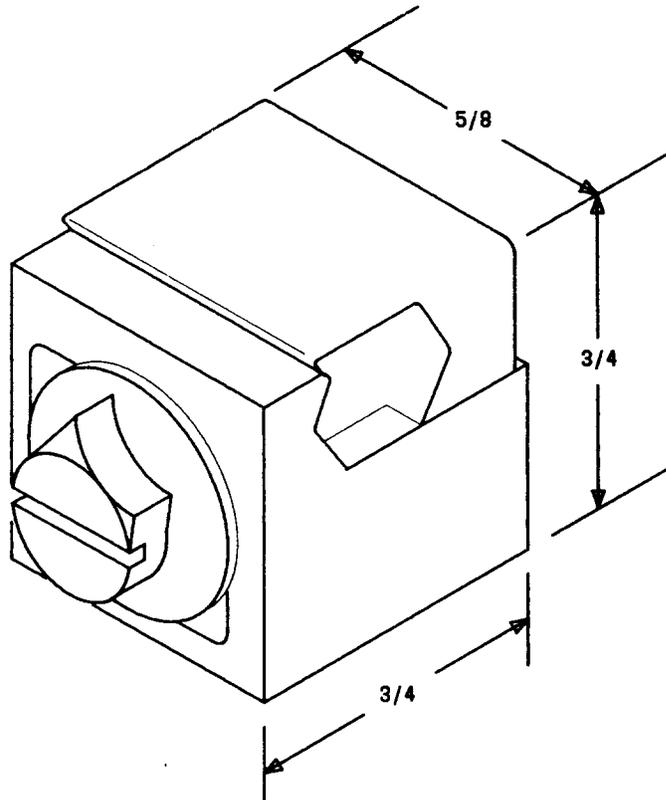

Fig. 1—H Connector (AT-8980) Size 1
2.01 The H connectors (Fig. 1 and 2) are 3-piece brass vise-grip type clamps used to make electrical ground conductor connections. The connectors may be installed or removed with a 3/8-inch socket wrench, a 216-type tool, or a screwdriver.